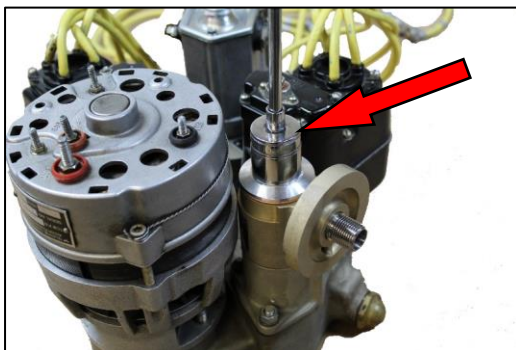

Figure 7
8. In general (see paragraph 9 for exceptions), using a socket as shown in Figure 7, tighten the spool snugly. Temporarily install an oil filter onto the filter mount flange. Position the filter so that at least 3/8-inch of clearance exists between the oil filter and other items in the engine compartment. At this stage, the spool should be tightened only enough to keep the filter in the proper location with respect to other adjacent items in the engine compartment.